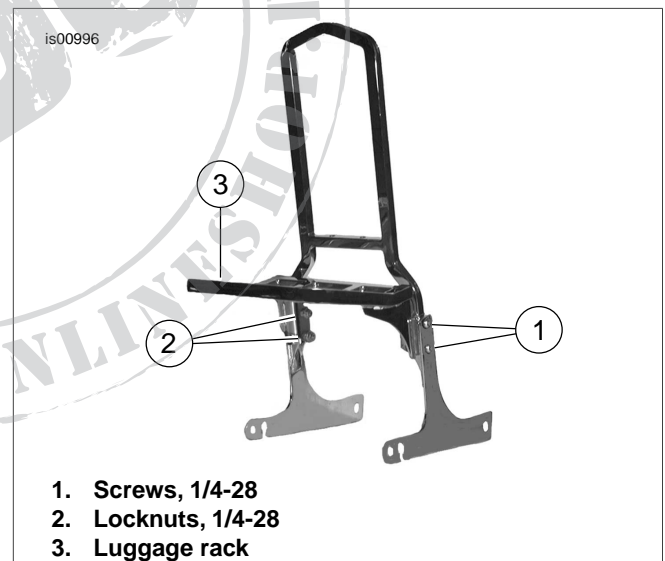

Figure 1. Luggage Rack
2. See Figure 1. Position the luggage rack (3) between the sideplates of the passenger upright assembly.
3. Apply LOCTITE® 262 (Red) to threads of 1/4-28 screws (1). Thread screws through holes in the passenger upright sideplate, passenger upright, and luggage-rack support.
4. Fasten locknuts (2) to the screws. Tighten locknuts to 14 ft-lbs (19.4 Nm.).